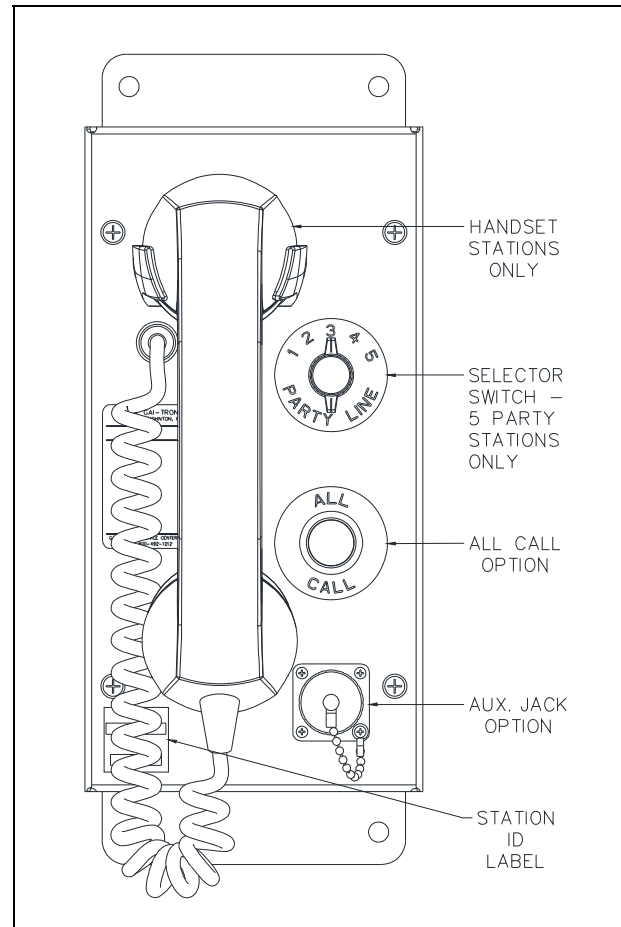
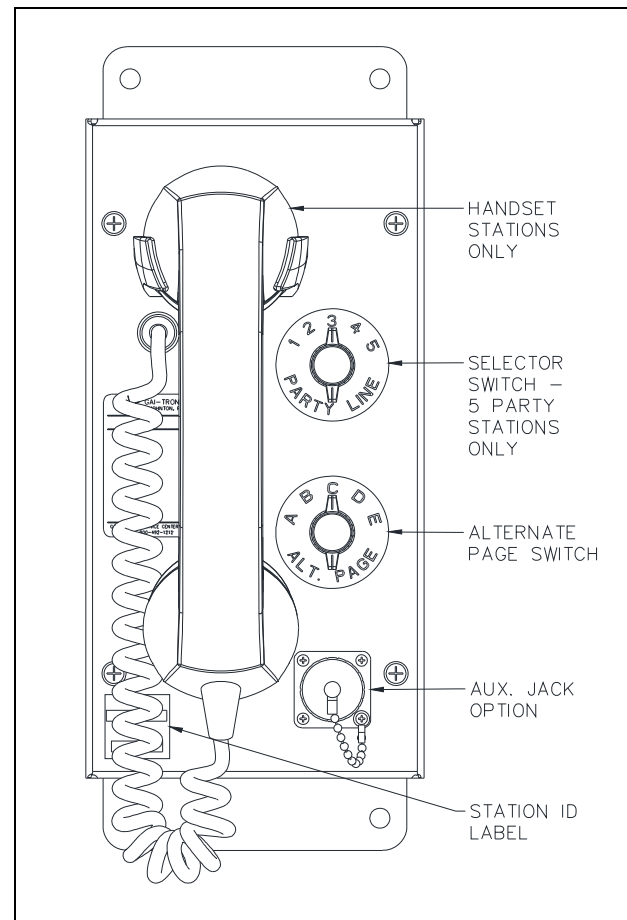

Figure 11. All-Call Button Location
Figure 12. Alternate-Page Switch Location
Use the ALL-CALL button to page an alternate destination that has been programmed for the station (see Figure 11). The ALL-CALL option must be software configured for the SP2 station. To initiate a page using the ALL-CALL feature:
Use the ALT-PAGE selector switch to page one of five alternate destinations programmed for the station (see Figure 12). Alternate page destinations must be software configured for the SP2 station. To initiate a page using the Alt-Page selector switch:
1. Attach the headset assembly to the auxiliary jack on the station (see Figure 11 or Figure 12).